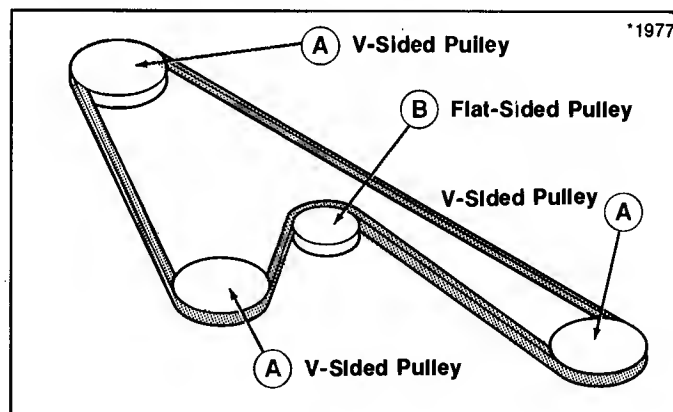

Figure 28.
7. Replace old belt with new belt as shown in figure 28. Make sure that V-side of belt runs in arbor pulley grooves and flat side of belt runs against idler pulley.